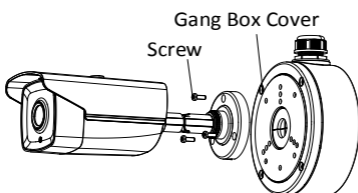

Figure 2-9 Fix the Camera with the Gang Box
2. Route the cables through the cable hole of gang box and fix the camera with the gang box cover with the supplied screws, as shown in Figure 2-9.